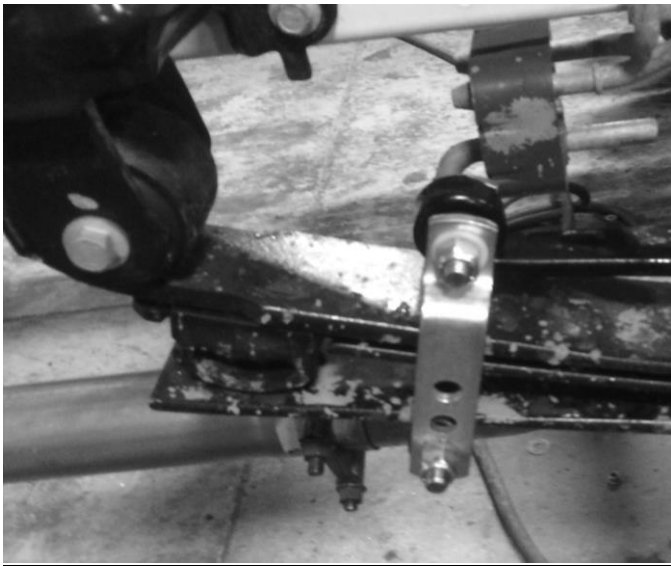

Fig. 3
**Step 5: Attach front shackle (Fig. 3)**